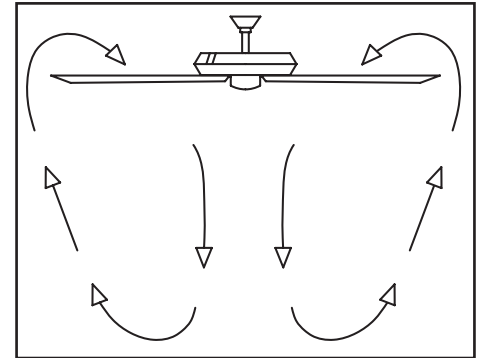

Figure 17
**Warm weather** - (Forward) A downward air flow creates a cooling effect as shown in Figure 17. This allows you to set your air conditioner on a higher setting without affecting your comfort.